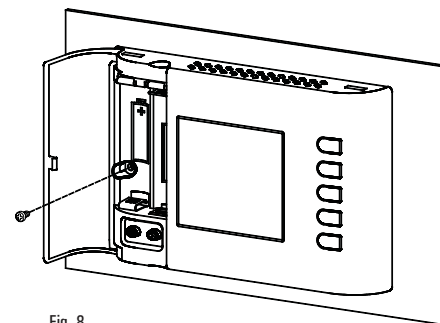

Fig. 8
- 5 Secure the body of the programmable thermostat to the wall plate using the supplied screw that is located inside the battery compartment (Fig. 8).